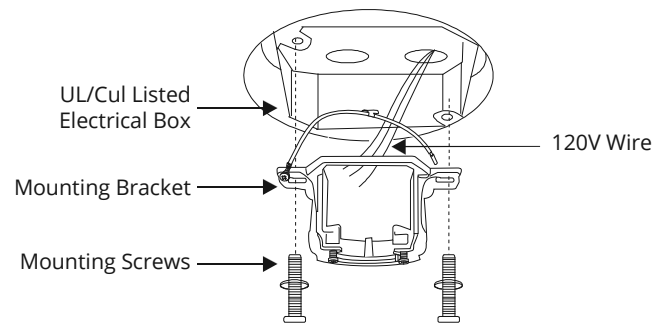

FIG.6
2. Pass the 120-volt supply wires through the center hole in the mounting bracket as shown (**FIG.6**).